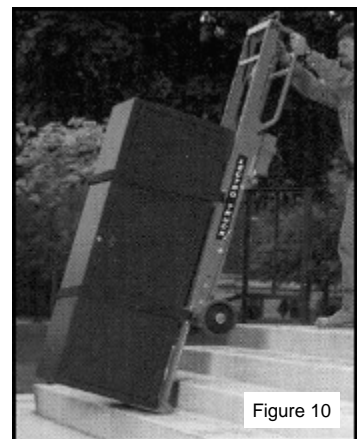

Figure 10
2. With the load firmly placed on the second step down, lean your machine forward slightly (Figure 10), and push the wheels down/ load up button, so your wheels move to the **first** step down.